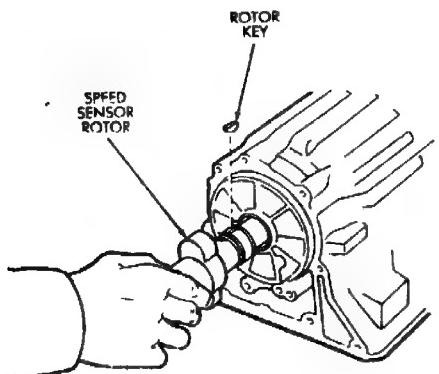

Fig. 63 Installing Speed Sensor Rotor And Key
(84) Install magnet in oil pan. Be sure magnet does not interfere with valve body oil tubes.
(85) Apply Three-Bond TB 1281 or equivalent sealer, to sealing surface of oil pan. Sealer bead should be at least 1 mm (.040 in) wide. Install pan on case and tighten pan bolts to 7.4 N·m (65 in-lbs) torque.
(86) Install speed sensor rotor and key on output shaft (Fig. 63).